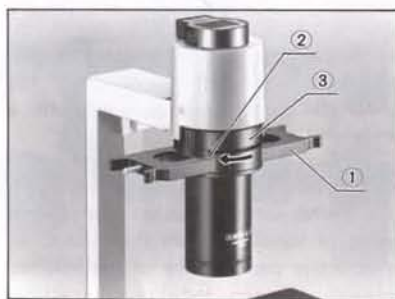

Fig. 16
Insert the phase slider ① into the slot in the condenser in such a manner that its engraved surface with figures faces upward, and the notched side toward the lamp housing pillar. Rotate the aperture iris diaphragm lever ② all the way to the left, and insert the green filter provided into the filter mount ③. (Fig. 16)